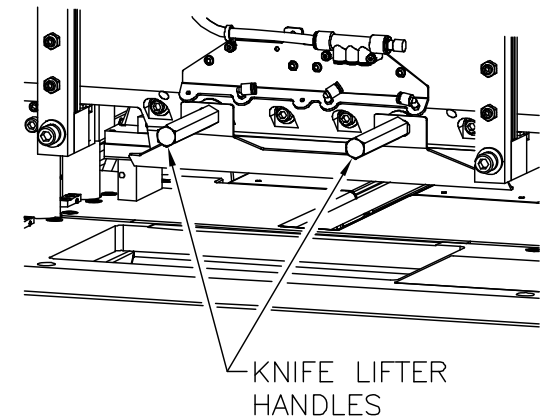

Figure 4-13. Knife Lifter
4. Place the knife lifter in position, aligning each lifter handle with the holes from which the two knife bolts were removed in the previous step. Turn the handles clockwise until the lifter is securely fastened to the knife bar (Figure 4-13).